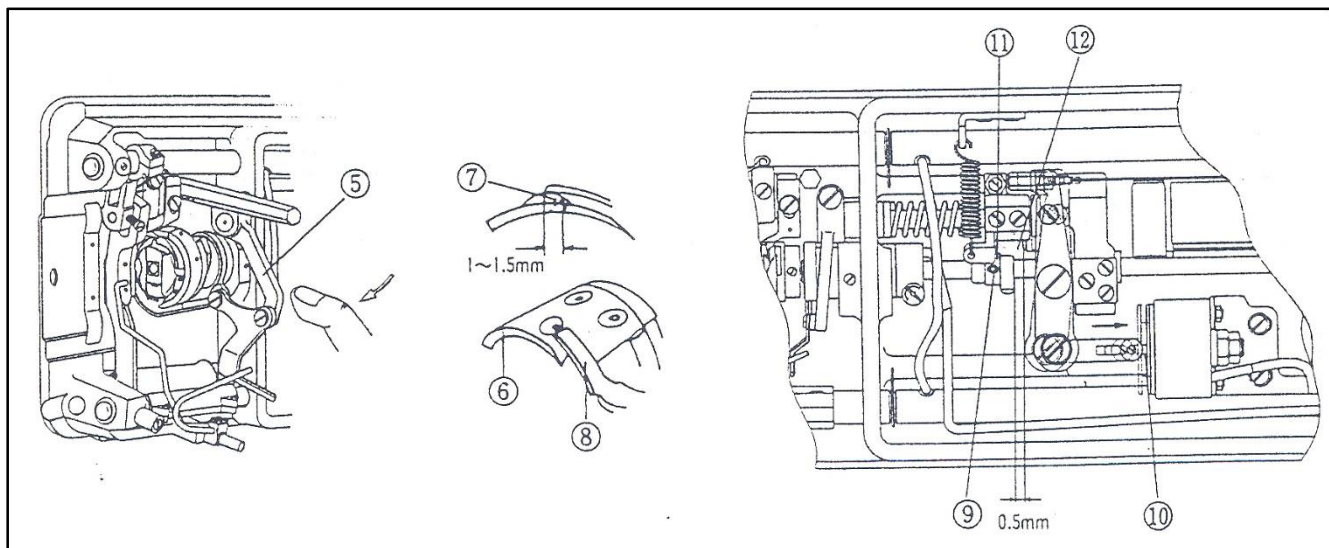

Figure 7.15
- C. Referring to Fig. 7.15, push trimming blade (6) up until fixed knife (8) is 1-1.5 mm onto mound (7).
- D. Referring to Fig. 7.15, push thread trimming solenoid (10) in with screw (9) of the thread trimming cam slackened.
- The distance between trimming cam (11) and roller screw (12) is 0.5 mm.